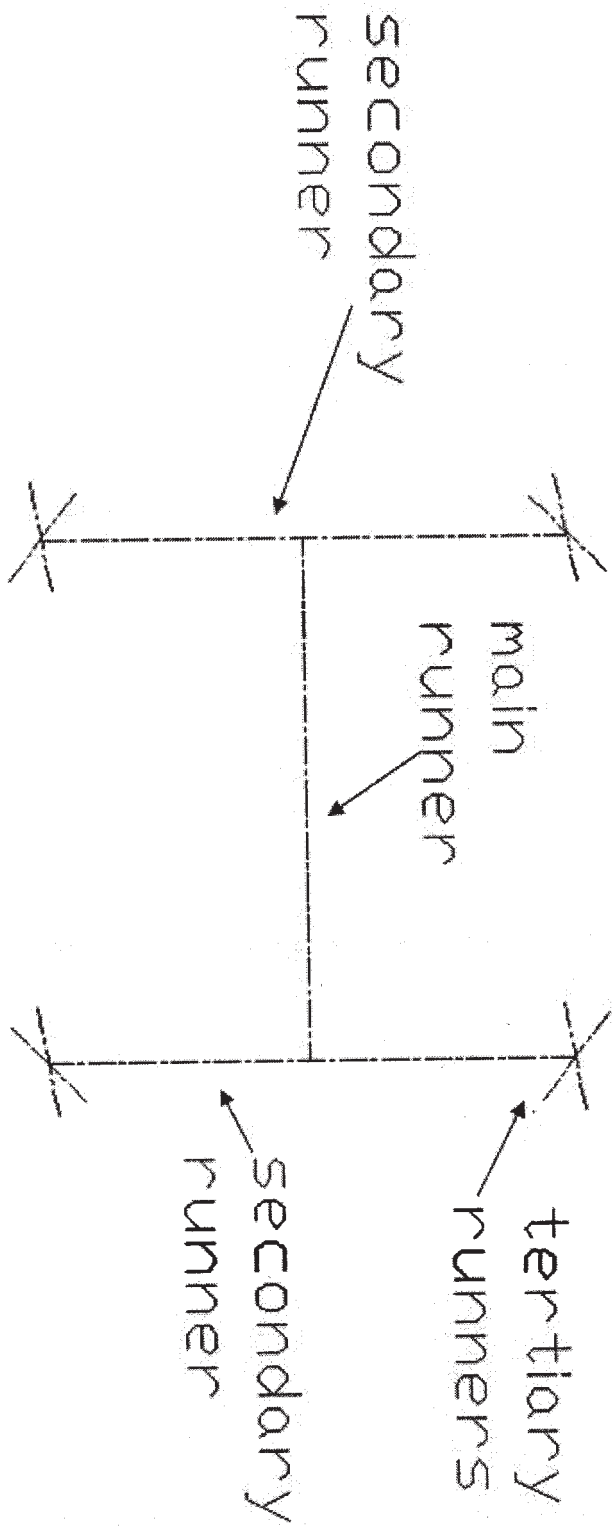

Figure 4
- b) For a 16 cavity mold, calculate the material saving per cycle if the secondary and tertiary runners are converted to hot runners. Dimensions of main runners are 8 mm diameter and 80mm length; secondary runner 6mm diameter and 85mm length and tertiary runners 3 mm diameter and 15 mm length. The material processed is PP. Refer to figure 4. [6]